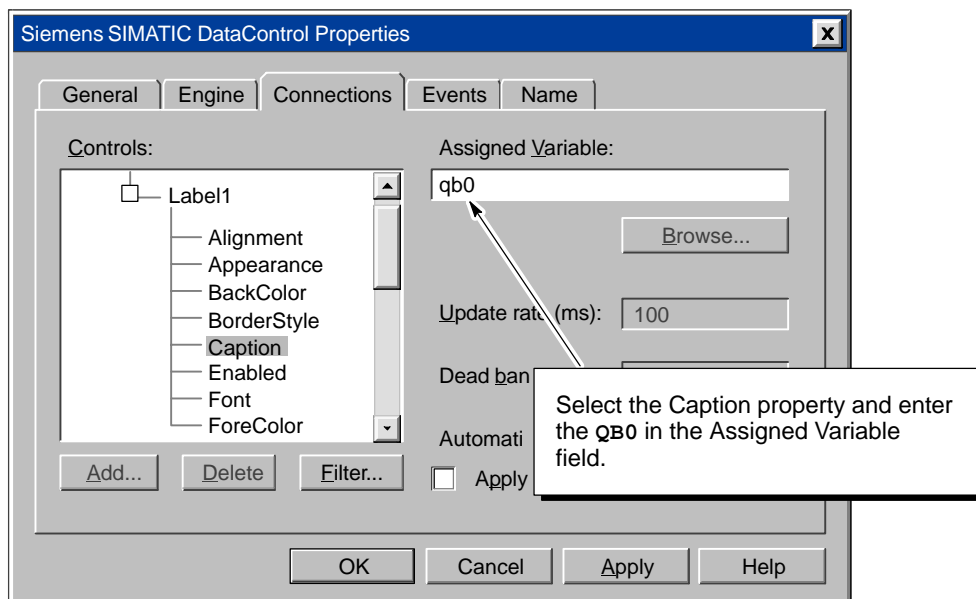

Figure 1-13 Assigning a Variable to the Caption Property of a VB Label Control
8. Select the Caption property and enter **QB0** in the Assigned Variable field. See Figure 1-13. Click on the Apply button to enter the data.